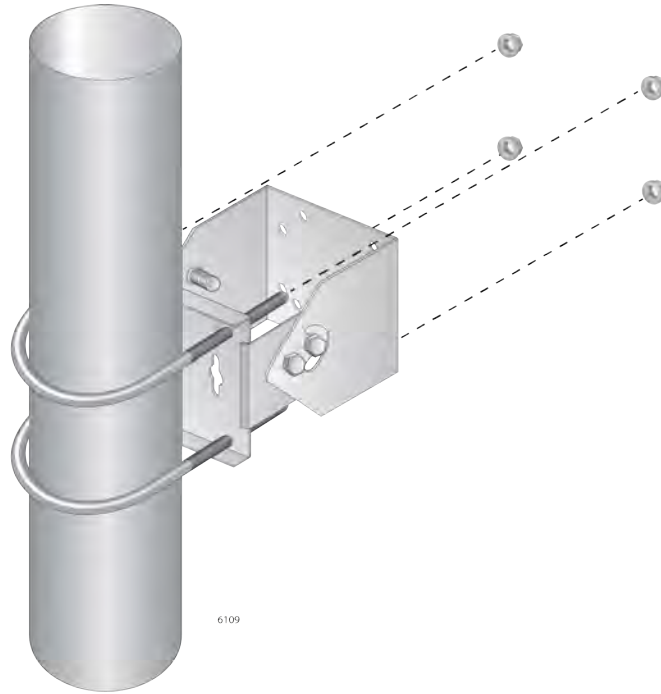

Figure 32. Attaching the Pole-Mount Bracket to the Pole
2. Attach the pole mount brackets to the pole with the two U-bolts. See Figure 32 on page 62.
Figure 32 shows how to attach the pole mount bracket to a vertical pole as an example. You can also install the bracket to a horizontal pole.